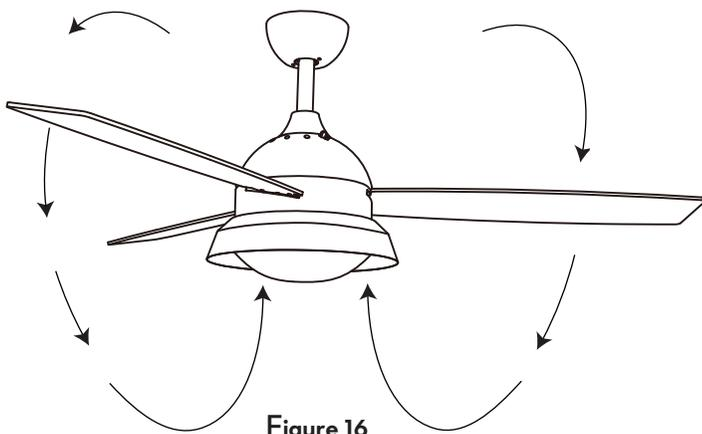

Figure 16
* Cool weather - (Reverse) An upward air flow moves warm air off the ceiling area as shown in Figure 16. This allows you to set your heating unit on a lower setting without affecting your comfort.